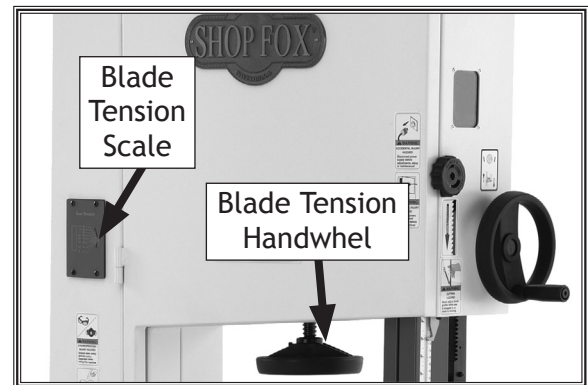
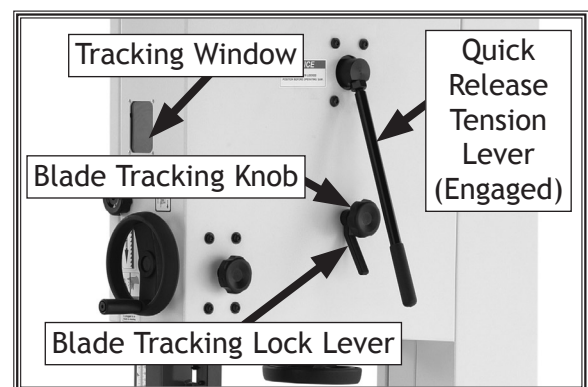

Figure 17. Front blade tensioning controls.
Figure 18. Rear blade tensioning and tracking controls.
3. Move the quick tension lever to the tightened position (**Figure 18**) and turn the blade tension handwheel (**Figure 17**) until the blade tension matches the mark on the blade tension scale for the appropriate blade width (refer to **Page 22** to tension the blade).
5. Loosen the lock lever (**Figure 18**) so that the blade tracking knob can rotate.